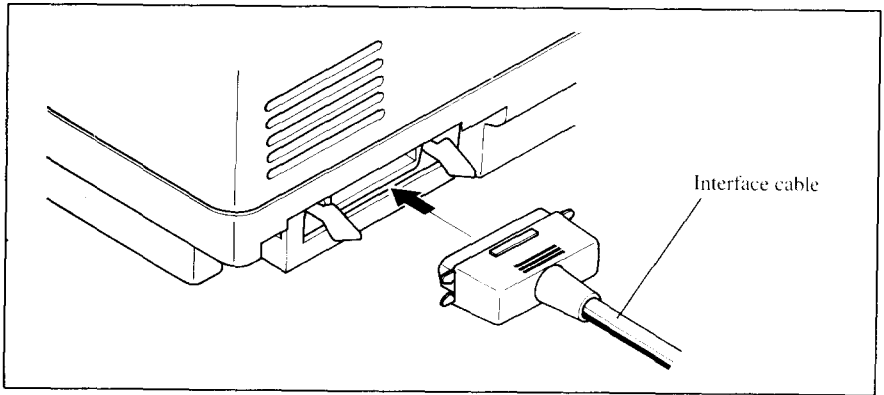

Figure 2-5. Connecting the interface cable.
2. Connect the interface cable to the printer as shown in Figure 2-5.